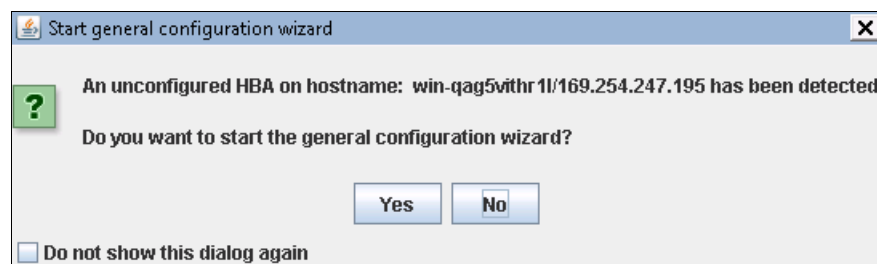

Figure 7-53 Adapter configuration
3. When prompted to start the general configuration wizard, click **Yes** (Figure 7-53).